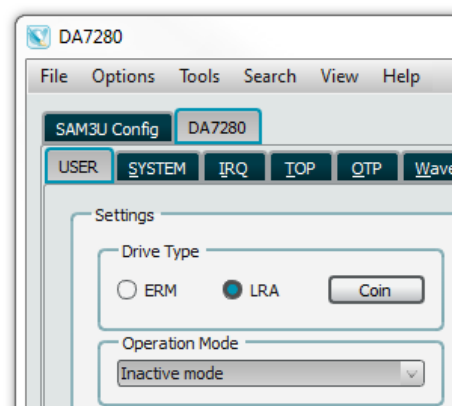

Figure 23: Drive Type
1. In **Drive Type**, select **LRA**, see Figure 23.